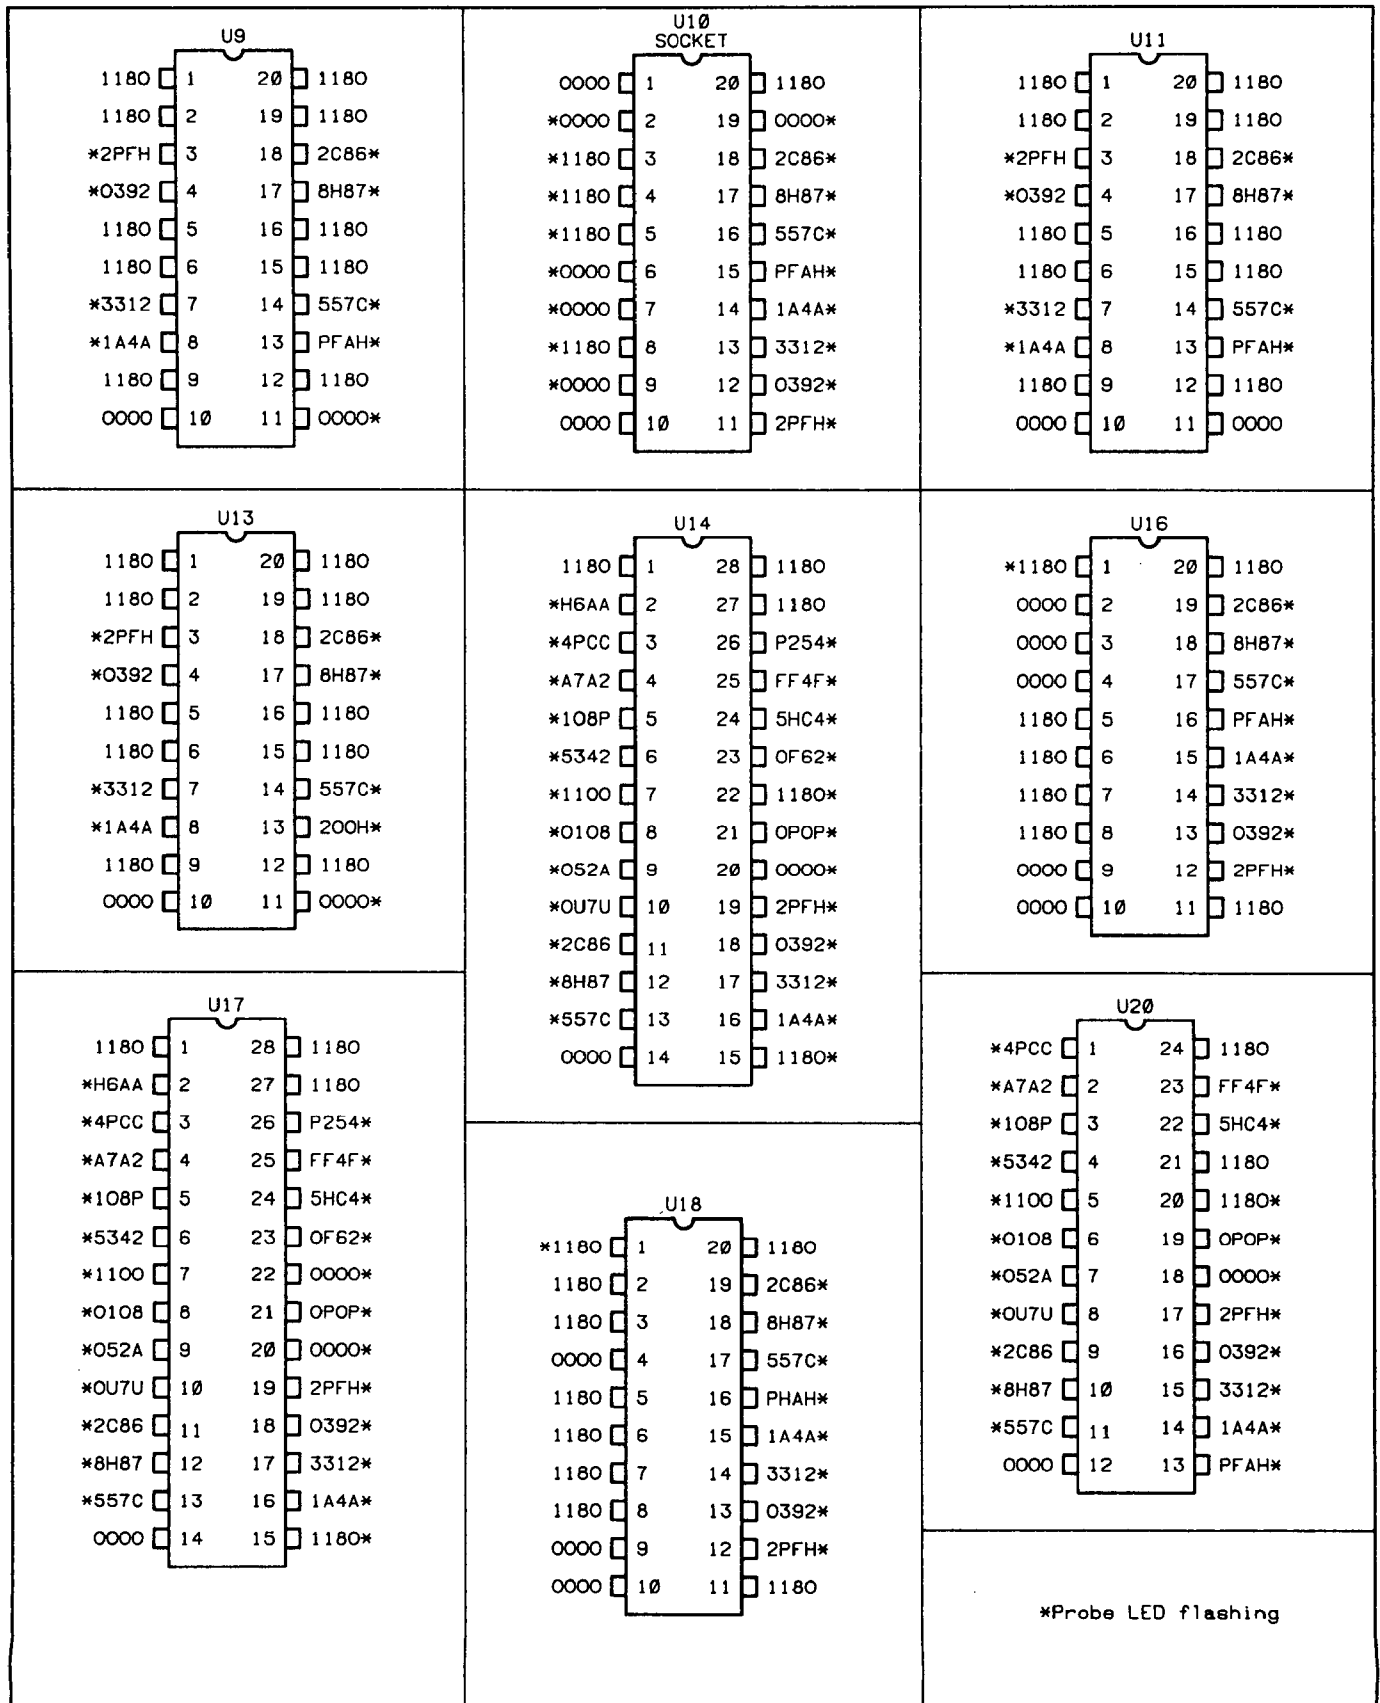

Figure 8-32B. 5352B A4 Signatures for Mode 1, Setup 4
3. Power on the counter and verify the signatures shown in *Figure 8-32A* for the 5350B/5351B, or *Figure 8-32B* for the 5352B.